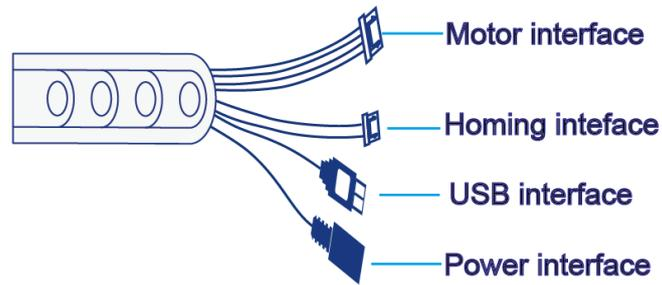

Figure 5.35 Interfaces on the other end of the wire set
Step 5 Connect the interfaces on the other end of the wire set to the power adapter, USB interface of PC, motor interface and homing interface of the sliding rail respectively. Figure 5.35 shows the interfaces on the other end of the wire set.